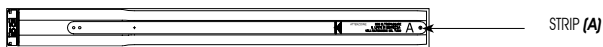

Fig. 7
3) DE STRIPS (Fig.7 ref.A), DIE BOVEN DE MOTORAS EN DE EINDSTOP (Fig.1 ref. ❶ - ❷) GEMONTEERD ZIJN, MOETEN TIJDENS DE ASSEMBLAGE VAN DE ELEKTRISCHE AS AAN DE BUITENZIJD VAN DE CENTRALE AS LOPEN.